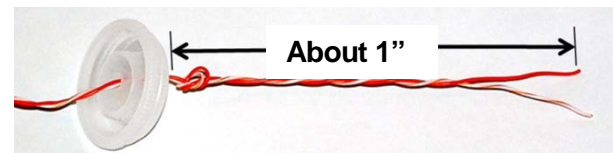

Figure 2.3-5: A Motor's Wires Passed through a Thruster Housing Cap and Knotted
5. Run about 1" (2.5 cm) of each wire pair through the hole in a thruster housing cap, and tie a knot on the inward side of the caps, as shown in Figure 2.3-5.